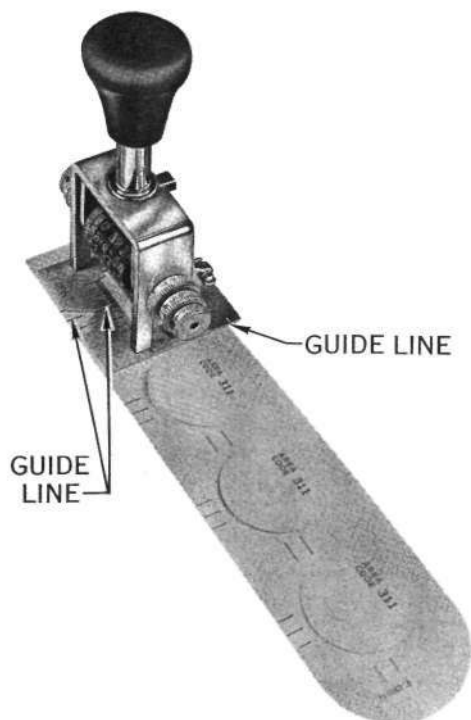

Fig. 8 - Aligning Numbering Machine without Lid
- (1) Set number in machine.
- (2) Align guide lines as shown in Fig. 8.
- (3) Print number.